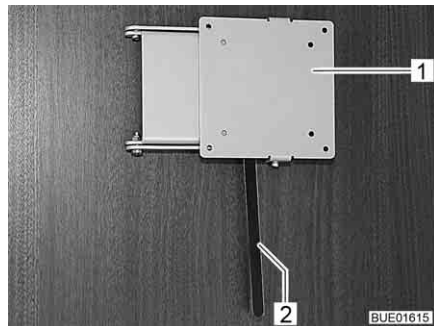

Fig. 66 Holder with release lever
- Push the release lever (Fig. 66,2) to the side and turn the holder (Fig. 66,1) with the flat screen to the desired position.
- Turn flat screen back until the holder (Fig. 66,1) engages in the lock.